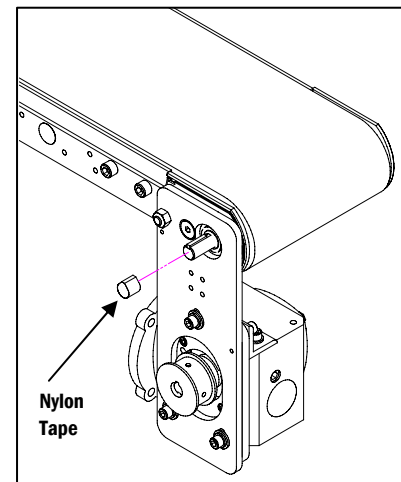

Figure 4
④ Install the belt (or chain)
- a. Remove the nylon tape from the conveyor's shaft that holds the key for shipment (Figure 4).